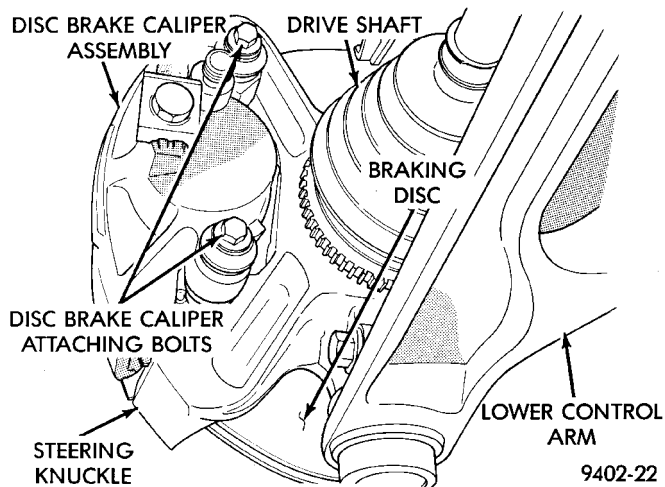

Fig. 5 Front Disc Brake Caliper Assembly Bolts
(5) Remove front disc brake caliper assembly to steering knuckle bolts (Fig. 5).